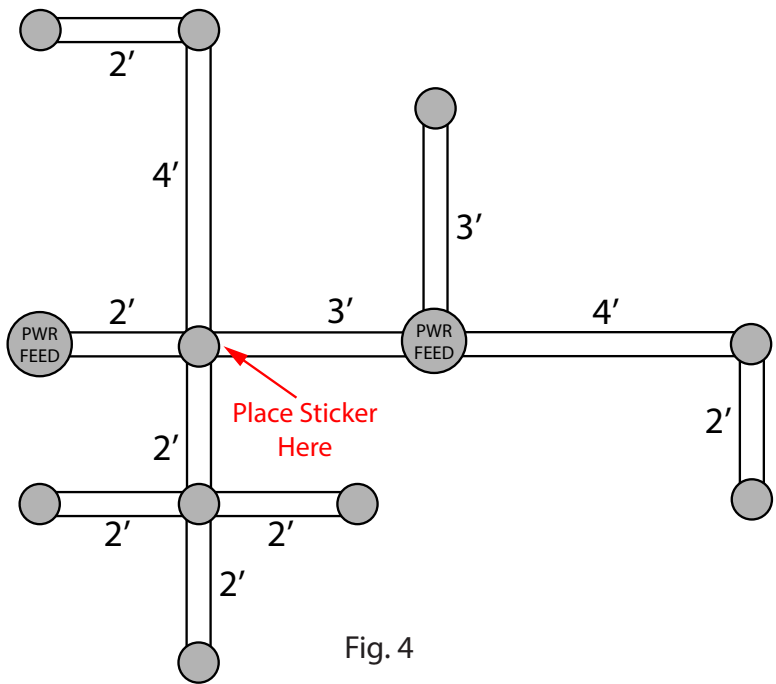
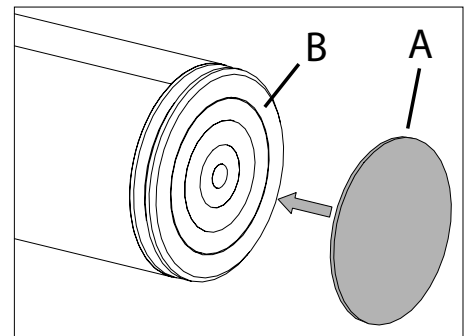

Fig. 4
Fig. 5
4. Configurations that violate any of the prior requirements must be split into two or more electrically-isolated subsections, each of which meets the requirements individually. Each subsection requires a separate power feed. See Fig. 4 for an example configuration split into two subsections. Subsections are electrically isolated by applying the included insulating stickers (A) to the Luminaire PCB (B) to block electrical contact between the appropriate Luminaires and Connectors (Fig. 5).